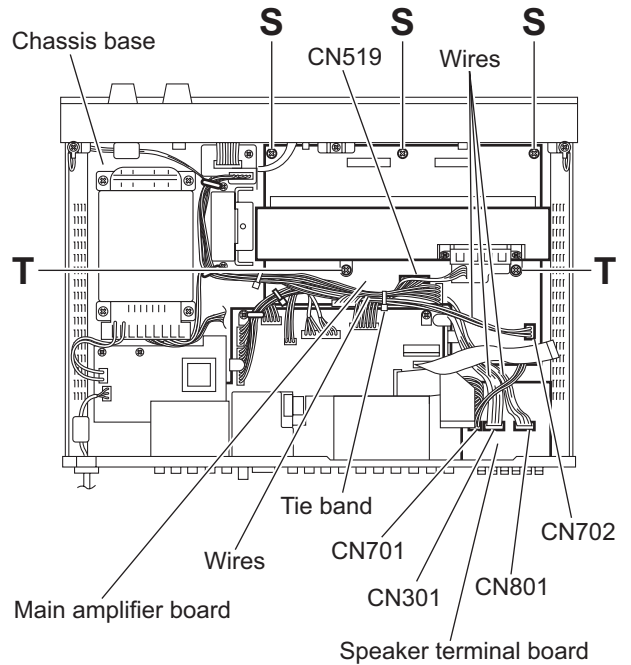

Fig.19
3.15 Removing the main amplifier board (See Fig.19)